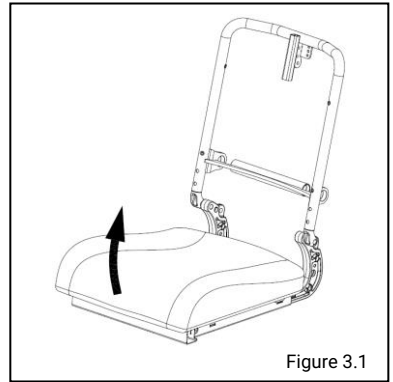

Figure 3.1
**Removing the seat cushion** (fig 3.1).
Remove the seat (fig 3.1).